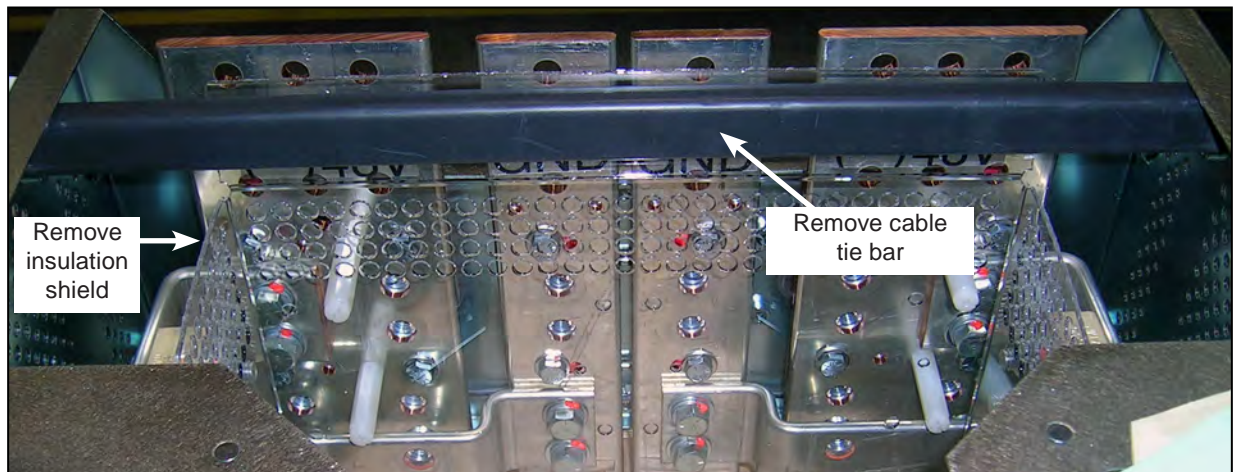

Figure 18 — Cable tie bar and insulation shield
- Re-install the cable tie bar and insulation shield in the add-on BDFB (see Figure 18).